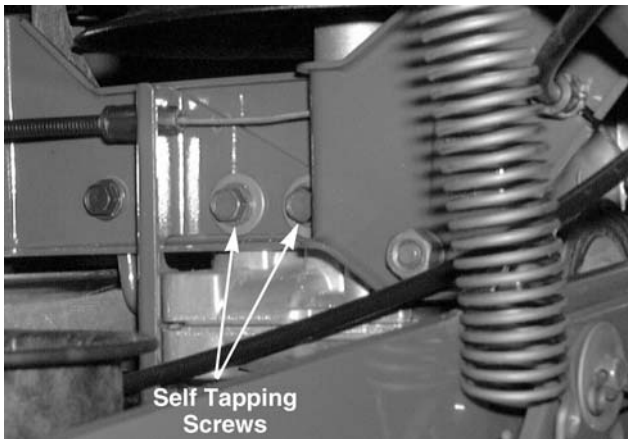

Figure 8-50.
7. Remove both hex washer head self tapping screws that secure the transmission support bracket to the transmission using a 3/8" socket. See Figure 8-50.